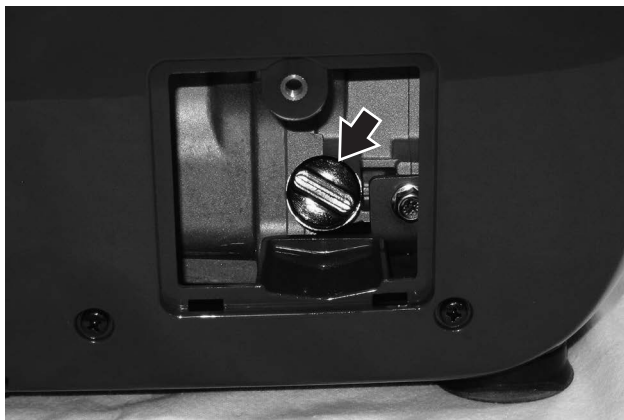

Figure 35 – Oil Fill/Drain Plug
6. Remove the oil fill/drain plug (*see Figure 35*).